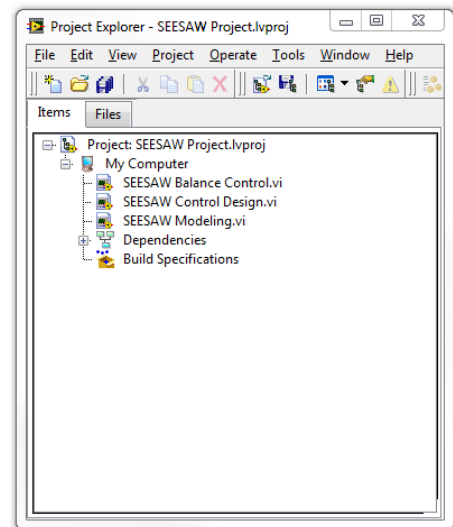

Figure 4.1: LabVIEW SEESAW-E Project
2. Open the *SEESAW Project.lvproj* LabVIEW project, shown in Figure 4.1.